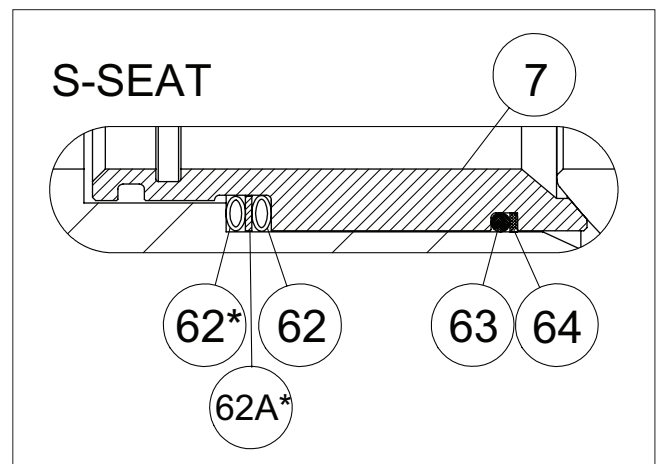

Fig. 11 S seat
- Place the back seal (O-ring) (63) into the groove in the seat. See Figure 11.
- Place the back-up rings (64) made of PTFE strips at the side of the O-ring. To ensure that the seam becomes flexible, the strip must have slanted ends.
- Place the spring (62) into the groove in the seat (7). NPS06 has 2 pcs spring (62) separated with spacer ring (62A).
- With the ball (3) in the “closed” position, and trunnion plate pins (89A) installed to holes in body (1), lower the ball/trunnion plate subassembly into the body (1). **NOTE:** This procedure is critical and careful attention is a must. The outside diameter of the trunnion plates must pilot in the body counterbore and the pins need to align with the holes in trunnion plate. Carefully lower the subassembly until a trunnion plate enters the counterbore and pins go inside the trunnion plate. (Usually one trunnion plate will enter the counterbore and the other will be out of position.) Use a plastic mallet or a block of wood to rotate the second trunnion into position. Once trunnion plates are aligned, lower the subassembly until the trunnion plates are seated in the bottom of the counterbore.
- Slide the thrust bearings (70 and 71) over the shaft (5). See the exploded view for proper orientation.
- Insert shaft subassembly through the shaft bore of the body (1). Note the correct shaft position!
- Install the bonnet gasket (66) and then bonnet (8) over the shaft and the bonnet studs (10) .
- Lubricate the threads of studs (13) and tighten the nuts (17) according to values in Table 2.
- Install the packing (69). Refer to Fig. 11 for proper orientation of packing
- Install the gland (9) over shaft (5) and gland studs. Install the disc springs sets (150) and the gland stud nuts (18) on studs and tighten “finger tight.”
- Install the body gasket (65) in the body groove.
- Place the body cap (2) carefully over the body studs (12) and the body (1). See that the flange holes are aligned acc. to the mark made during the dismatling. Take care not to damage the body gasket and the seat (7) in the body cap.
- Check that trunnion pins (89A) align with the holes in body cap (2).
- Fasten the body nuts (16). Tighten the nuts gradually, always switching to other side of the valve after every nut. The recommended torques is given in Table 3. The flange faces must in even contact with each other.
- Mount the key (10).